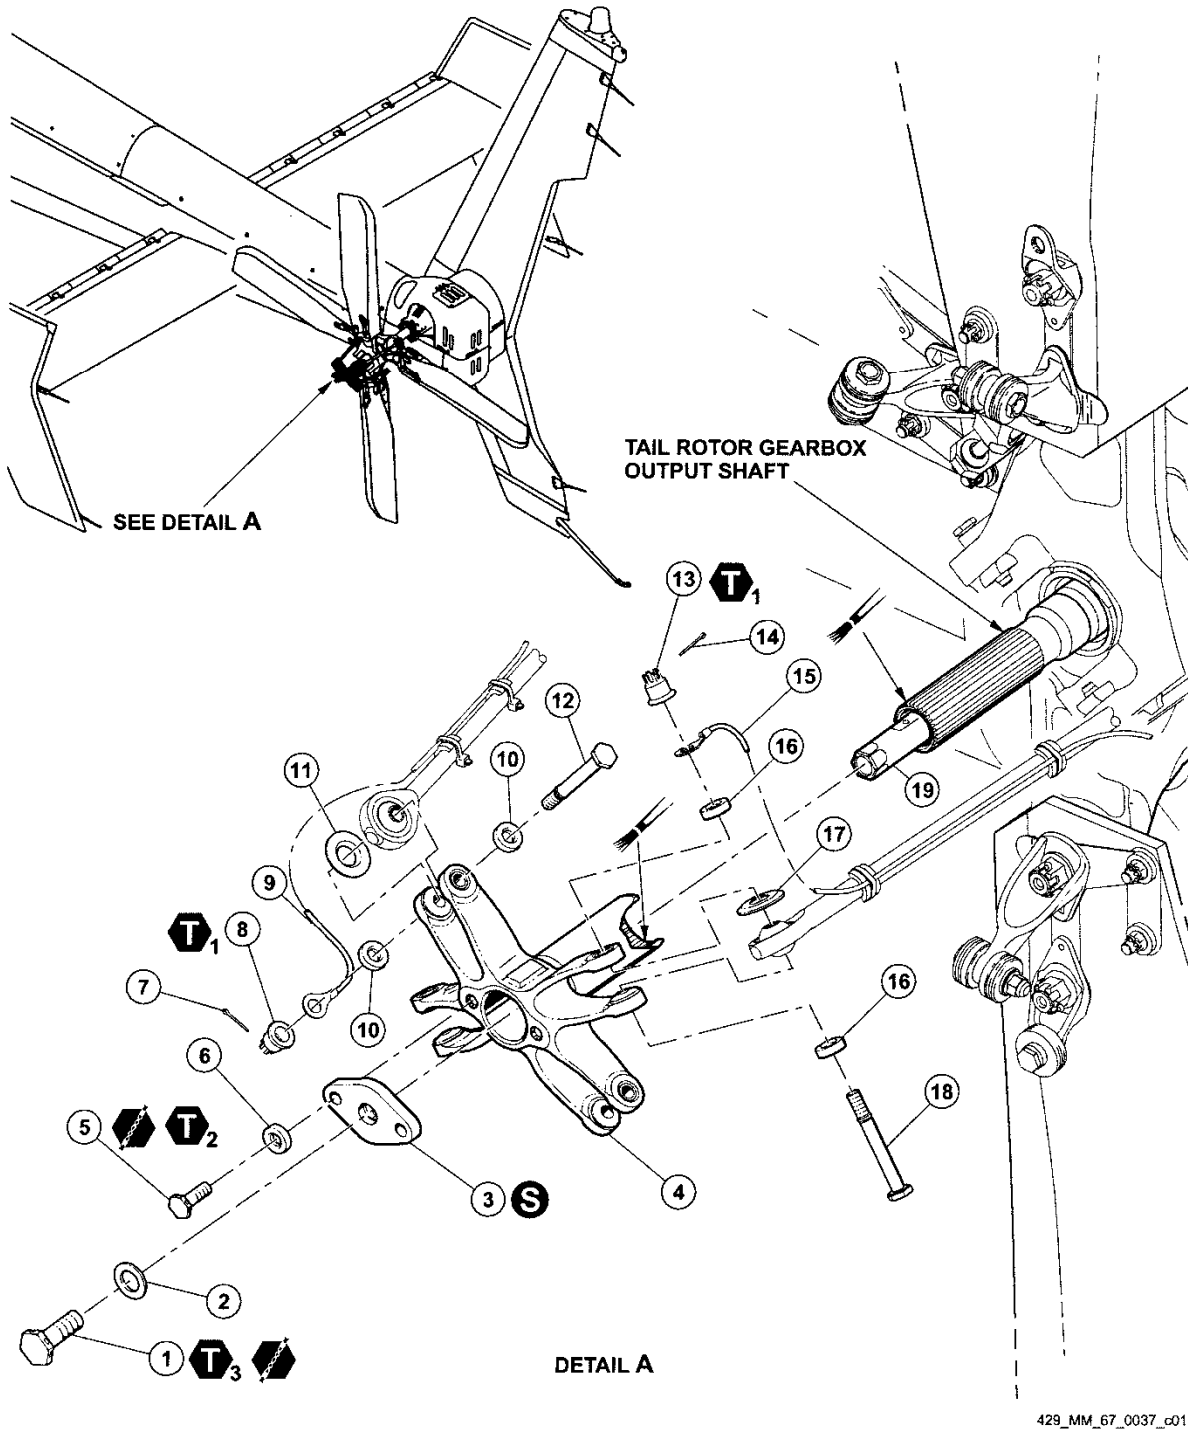

Figure 1. Crosshead Assembly – Removal and Installation (Sheet 1 of 2)
1. Remove drive plate (3, figure 1) per BHT-429-MM chapter 67.
2. Verify that there is no paint as shown in figure 2 on the crosshead (4, figure 1) and the drive plate (3, figure 1).
3. If no paint is present, reinstall drive plate (3) per BHT-429-MM chapter 67 and make an entry in helicopter historical service records indicating compliance with this Technical Bulletin.
4. If paint is present, remove crosshead (4, figure 1) per BHT-429-MM chapter 67.